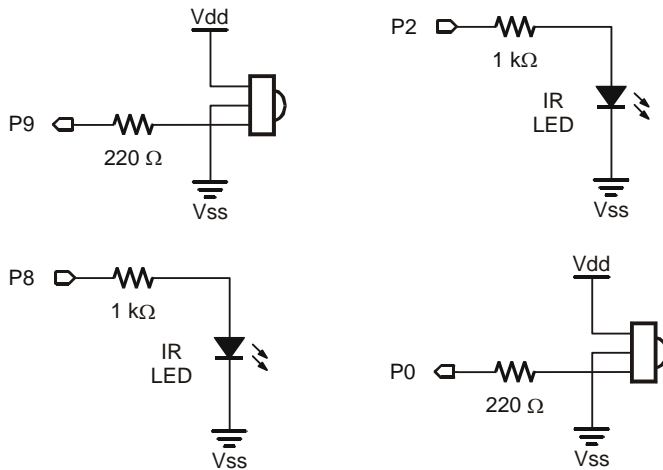

Figure 7-7
Figure 7-7 shows the IR object detection circuit schematic and Figure 7-8 shows a wiring diagram of the circuit. In the wiring diagram, one IR object detector (IR LED and receiver) is mounted on each corner of the breadboard closest to the very front of the Boe-Bot.
- ✓ Build the circuit in the Figure 7-7 schematic using the Figure 7-8 wiring diagram as a reference for parts placement.